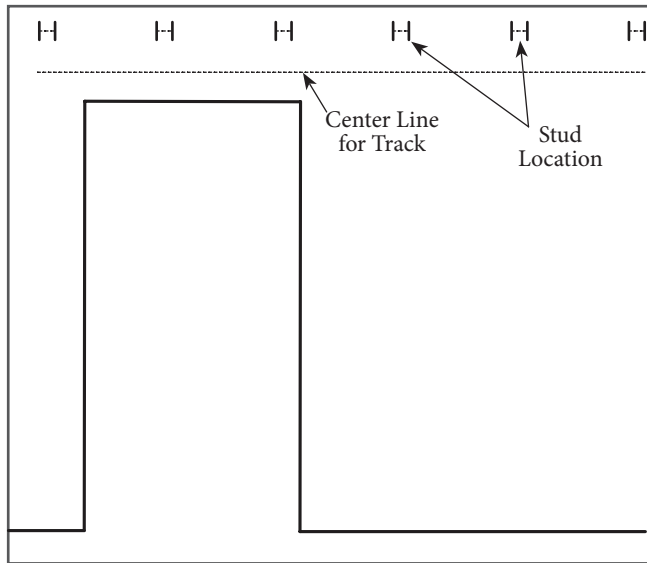

Figure 2
3. Using a stud finder, locate the studs along the area the header will be installed. Mark stud locations with a pencil (Figure 2).